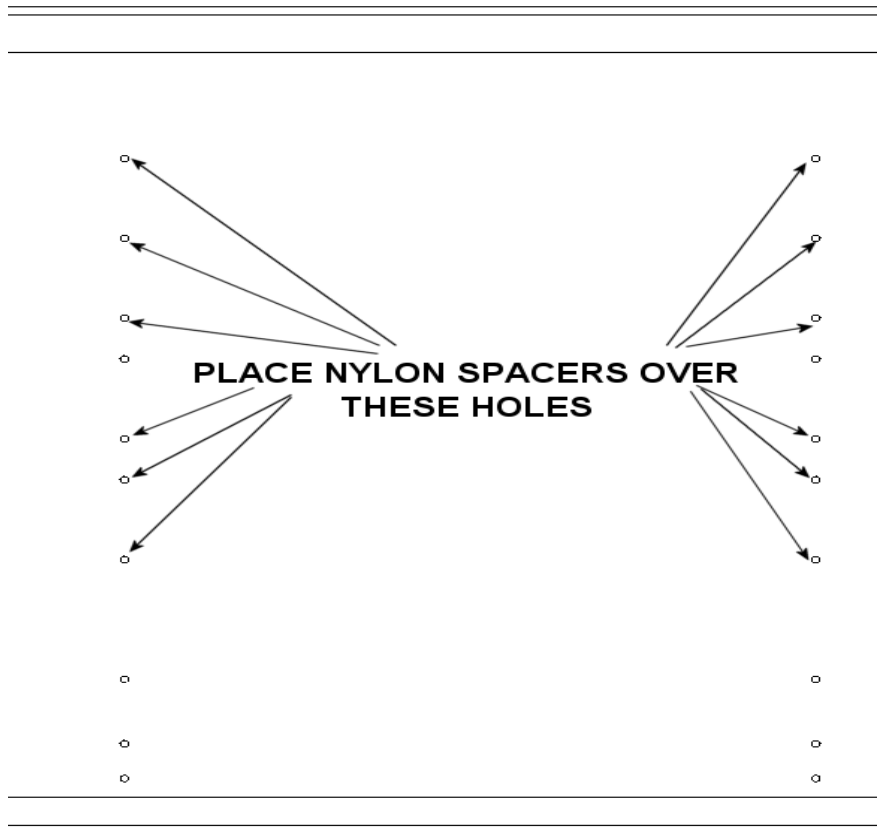

Figure 33. Spacer Location for Group 11
3. Place the Nylon spacers over the 12 mounting holes on your display (see Figure 33).